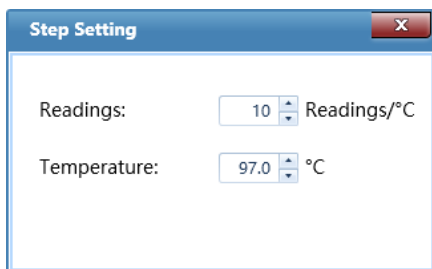

Figure E-6.6e Step Setting Dialog Box – Continuous Melting Step Mode
V. **Continuous Melting:** Continuous melting stage allows the system to read the fluorescence more frequently. If the current step is the last step of continuous melting stage, users can set the fluorescence reading times per °C for the current step in the **Step Setting** dialog box, as shown in figure E-6.6e.